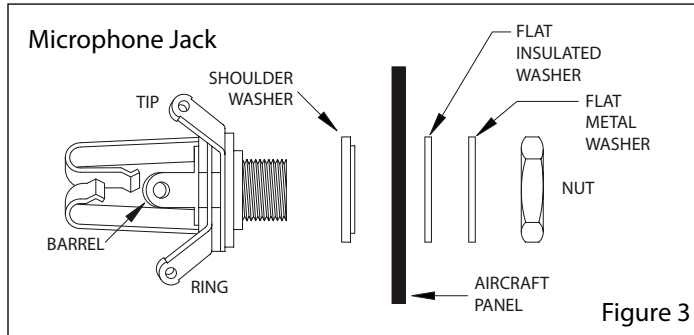

Figure 3
3. Drill $\frac{1}{2}$ " diameter holes for mic jacks and install with insulating washers supplied. (See Figure 3).